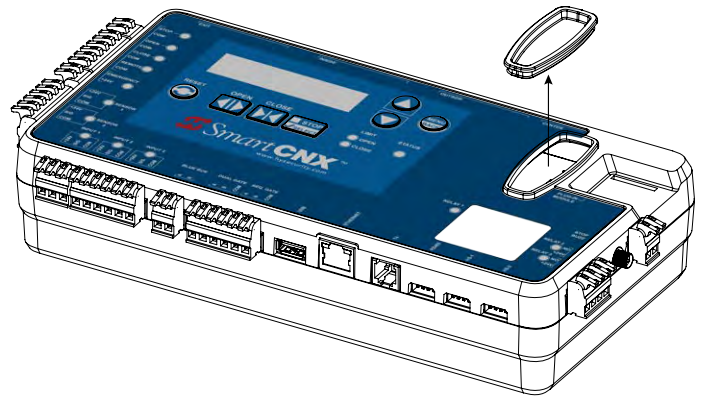

Figure 65. Remove OXI Receiver Cover
2. Remove the rubber plug or OXI receiver from OXI receiver slot (Figure 65).